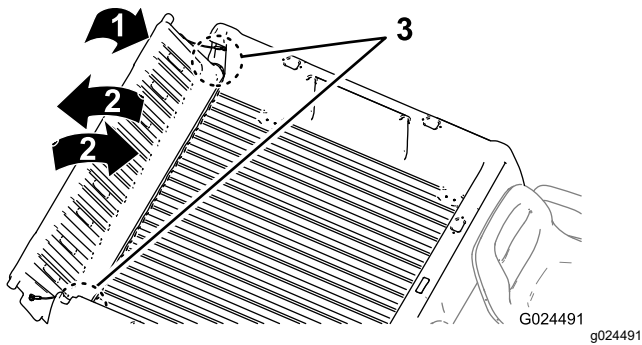

Figure 17
2. Rotate the tailgate to approximately the 45° position (Figure 17).
3. Use a short, shaking motion to rotate the tailgate back and forth several times (Figure 17).